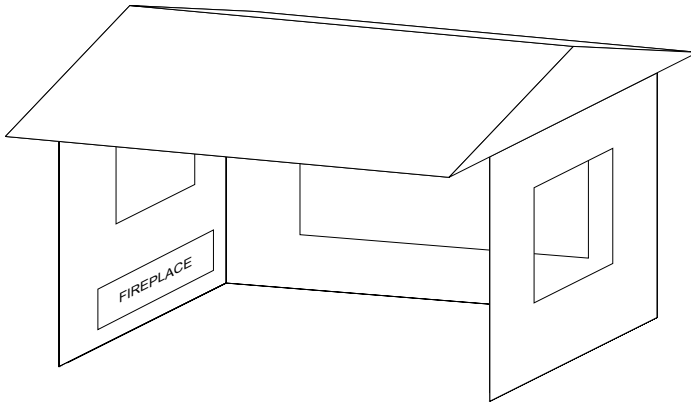

Figure 7
- Within a partial enclosure which includes an overhead cover and three sidewalls, as long as 30% or more of the horizontal periphery (i.e. perimeter) of the enclosure is permanently open; such as an open porch. See Figure 7.